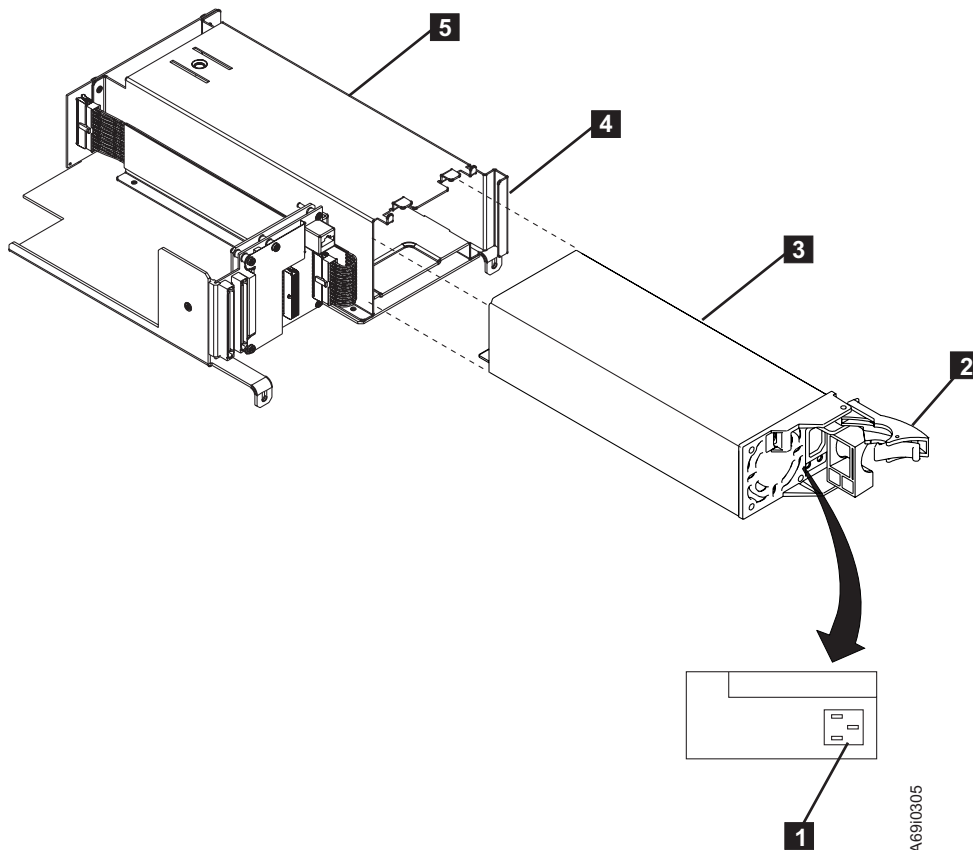

Figure 82. Removing or replacing a redundant power supply - models L22, D22, L52, or D52 hot swap
2. Disconnect the power cable (**1** in Figure 82) from the rear of the power supply.
6. With the locking arm **2** in the outward position, carefully slide the power supply canister (see **3** in Figure 82) into the fixed tray assembly **5** as far as it will go.